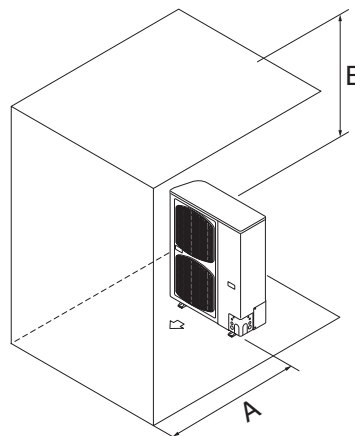

Fig. 2-15
- (3) Obstructions on the front side and above the unit (Left side, right side and rear side are opened). (Fig. 2-15)